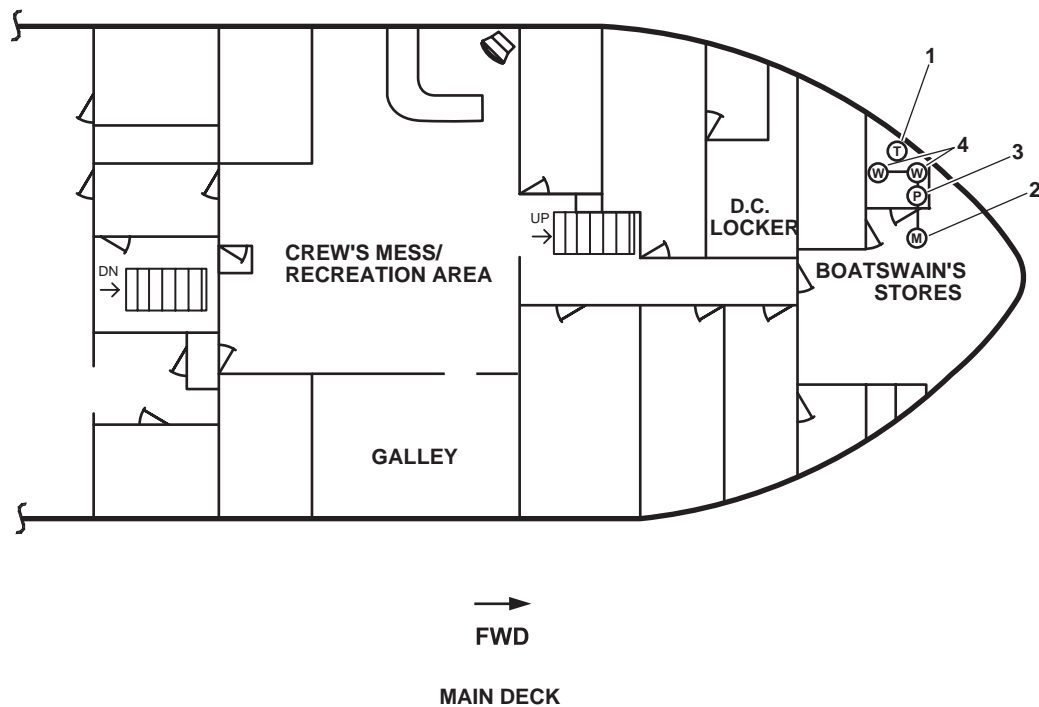

Figure 11. Arms Locker Drenching Systems
System activation occurs when the thermal heat detector (figure 11, item 1) senses a temperature above 105 °F (40.5 °C). The thermal heat detector sends an alarm signal to the pilothouse indicating high temperature conditions in the arms locker. The crew shall then investigate the situation and, if necessary, the fire main system would be charged. Once it is determined that the alarm condition exists and the fire main system is charged, the manual activation valve (figure 11, item 2) is OPENED either locally or remotely. As raw water enters the piping system in the arms locker, a pressure switch (figure 11, item 3) activates an alarm in the pilothouse to indicate that the arms locker drenching system has been activated. The raw water from the fire main flows into the arms locker and out of two sprinkler heads (figure 11, item 4). Once activated, the system will continue the flow of raw water into the arms locker until the manual activation valve is closed or the fire main system is secured.